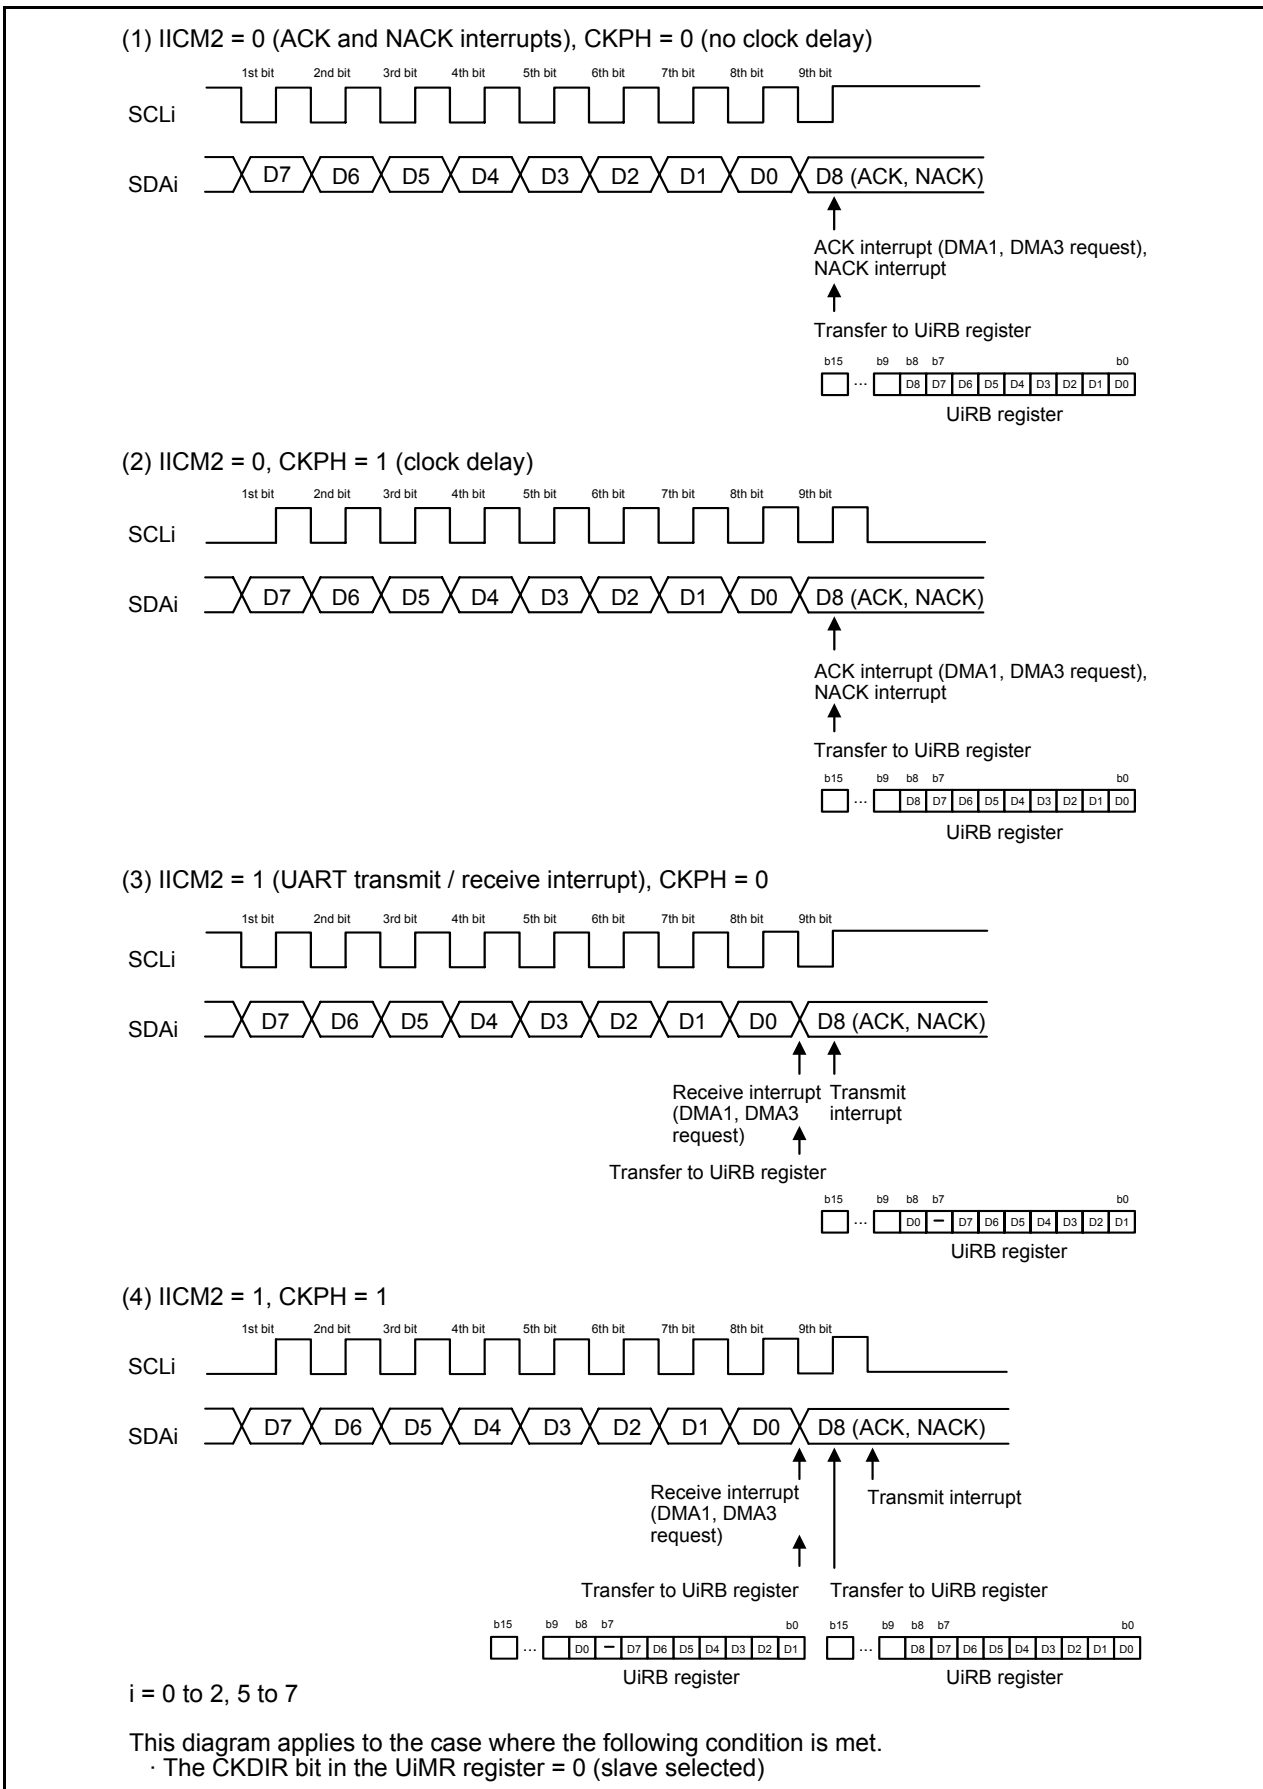

Figure 17.25 Transfer to UiRB Register and Interrupt Timing
- See Figure 17.25 "Transfer to UiRB Register and Interrupt Timing".
The transfer clock is used to transmit and receive data as is shown in Figure 17.25 Transfer to UiRB Register and Interrupt Timing.